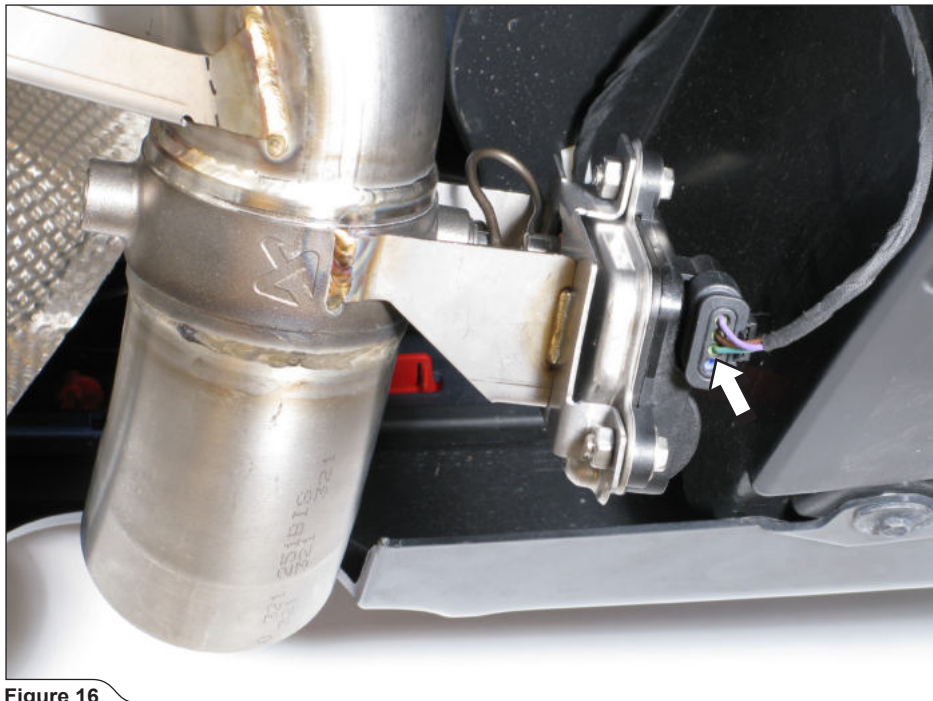

Figure 16
8. Connect the exhaust valve servo's connector (Figure 16).